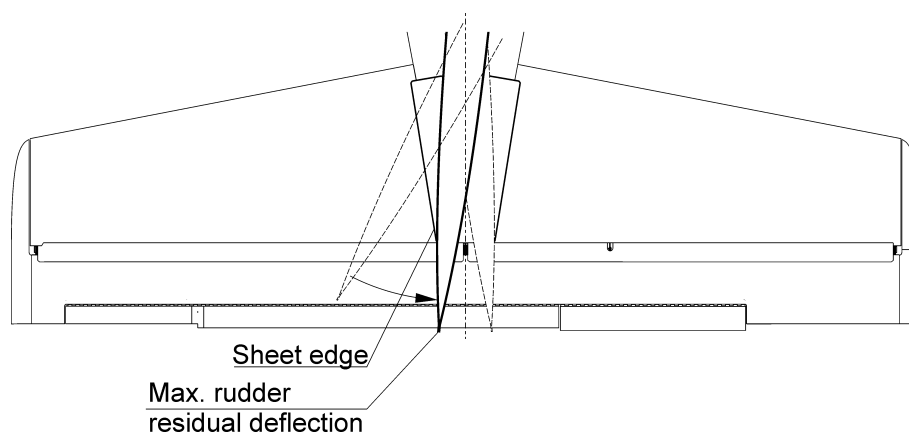

Fig 6-17: Friction in directional control system
- (b) Slowly move the rudder back to neutral position. Maximal permissible residual deflection of the rudder is on edge of central covering sheet (see Fig. 6-17).